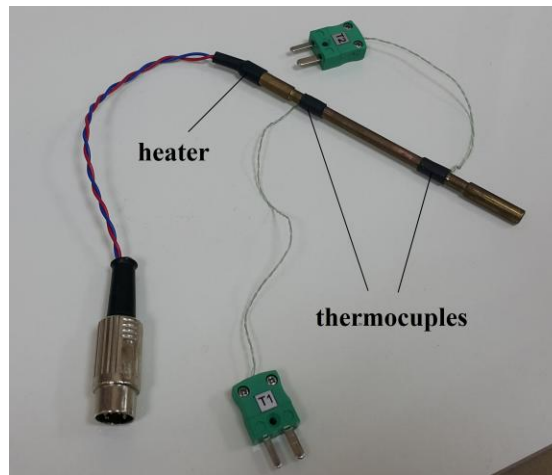

Fig. 4: One of the three specimens with heater two thermocouples
Supplied with the apparatus are three different specimens (see fig. 4 and table 1 for more details). Each specimen is made of a different metal for comparison of thermal conductivity. At the end of each specimen is a small resistive heater. Two thermocouples are bonded to each specimen at a fixed distance apart. This distance is the test length (L).